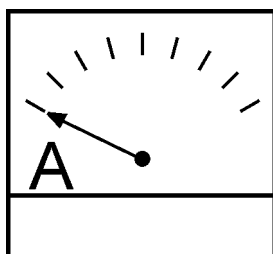

Figure 51. Ammeter (No Load)
11. The ammeter (Figure 51) will indicate zero amps with no load applied. When a load is applied, this meter will indicate the amount of current that the load is drawing from the generator.